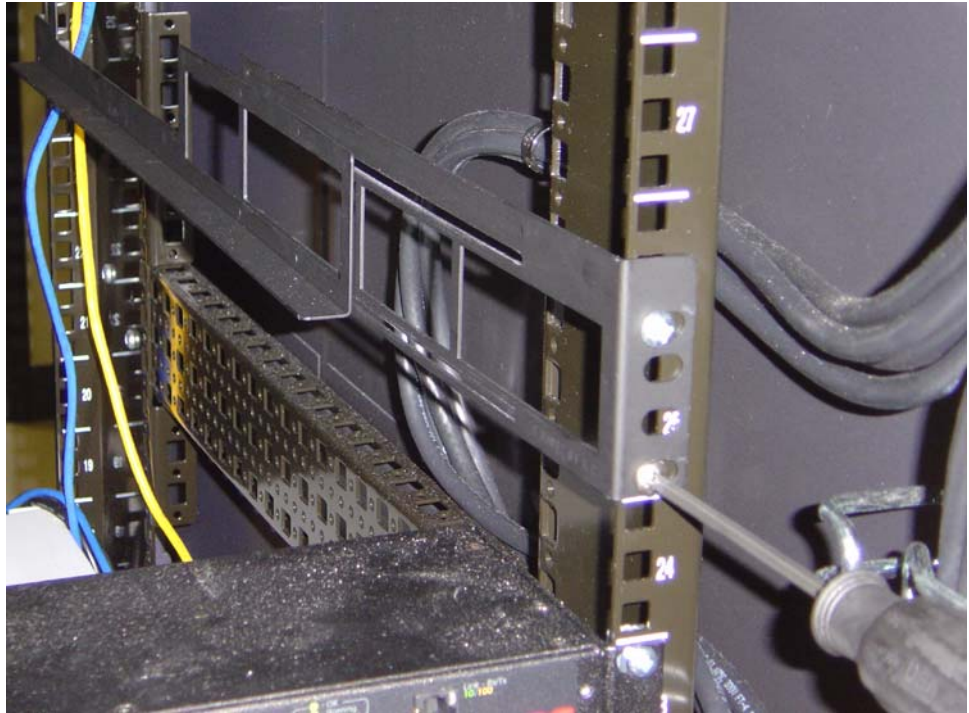

Figure 1-5: Attaching Rails from the Back
11. Screw the top and bottom of the back of the rails to the rack, as shown in Figure 1-5.